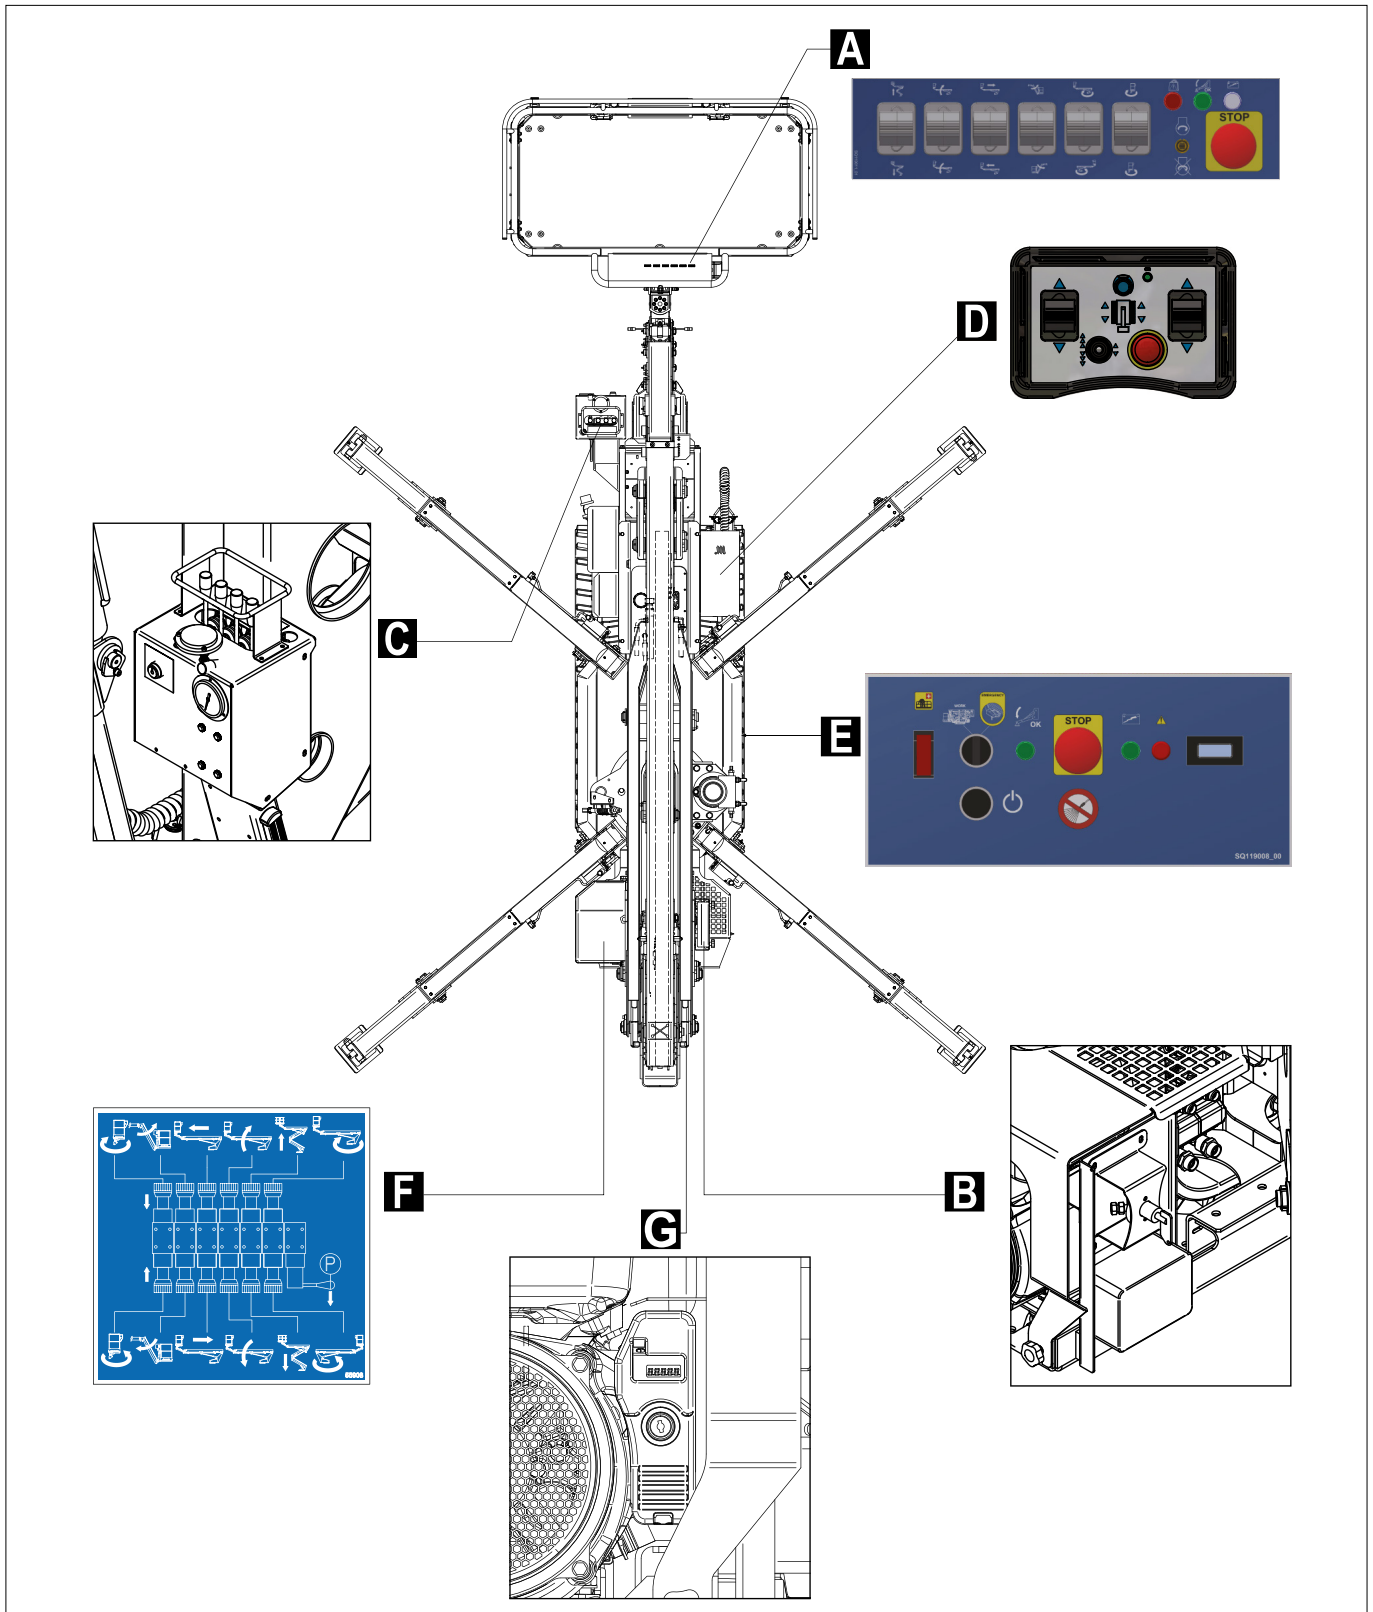

FIG. 8 (Position of control and monitoring devices)
5.15.2 CONTROL PANEL ON THE WORK PLATFORM (FIG. 8 - REF. A)
5.15.3 BATTERY DISCONNECT SWITCH (FIG. 8 - REF. B)
5.15.4 STABILISER CONTROLS AND SPIRIT LEVEL (FIG. 8 - REF. C)
5.15.5 MOBILE TRACTION CONTROL PANEL (FIG. 8 - REF. D)
5.15.6 GROUND CONTROL PANEL (FIG. 8 - REF. E)
5.15.7 EMERGENCY CONTROL VALVE UNIT (FIG. 8 - REF. F)
5.15.8 ENDOTHERMIC ENGINE CONTROL PANEL (FIG. 8 - REF. G)